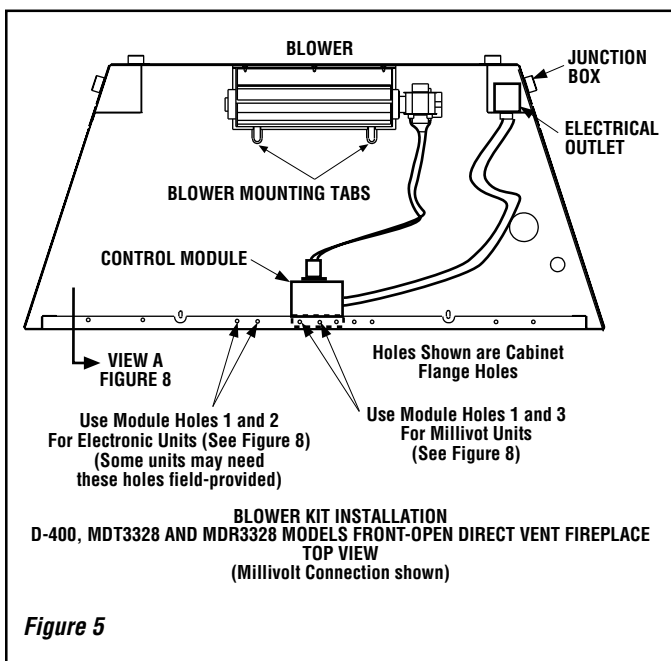

Figure 5
- d** - see **Figure 5** for D-400, MDT3328 AND MDR3328 units;